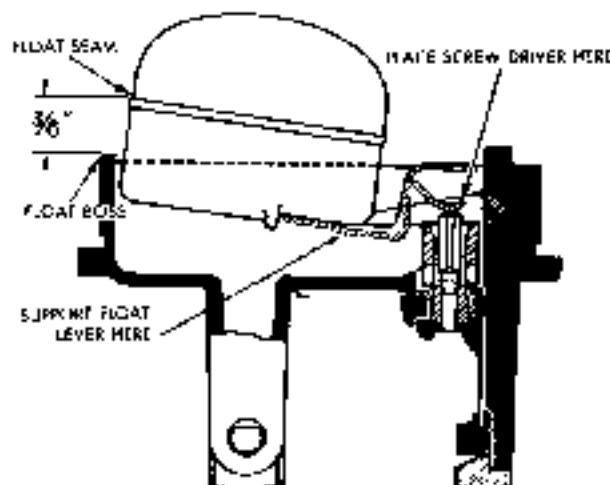
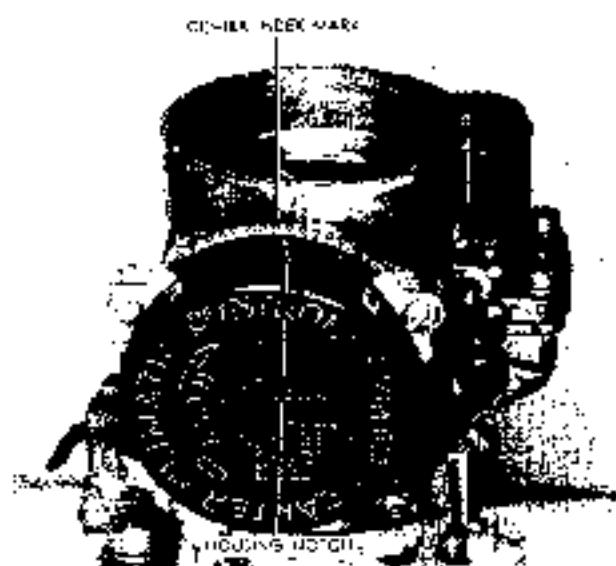

FIG. 354
FIG. 355
The disassembly, cleaning and inspecting, and the re-assembly procedures are the same for the new series carburetor as for the 1947 model. There are, however, two adjustments that differ from the previous model carburetor. They are (1) the float level adjustment which is $1/8$ -inch instead of $1/4$ -inch (see Fig. 354) and (2) the automatic choke setting which is one notch lean instead of on the center index mark (see Fig. 355).